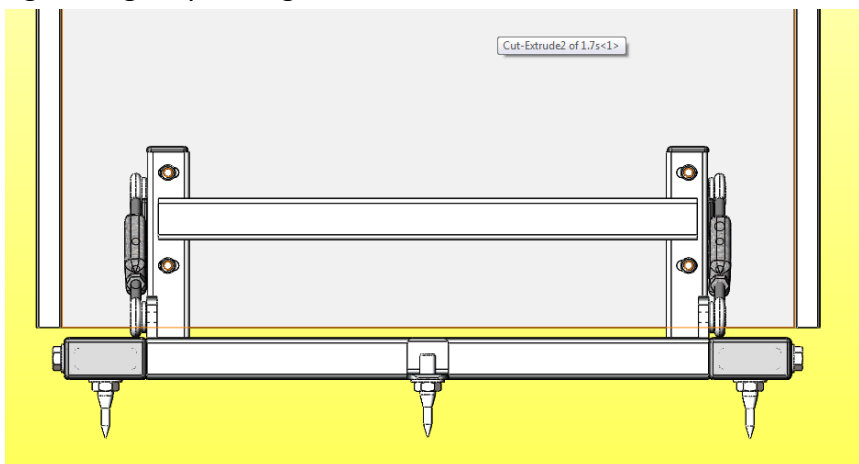

Figure 5
3. Fasten the stand to the speaker at the points, shown in *figure 5*, using the screws that Magnepan supplied with your speakers. Tighten snugly but do not over tighten as over tightening may damage the threaded inserts or screws.